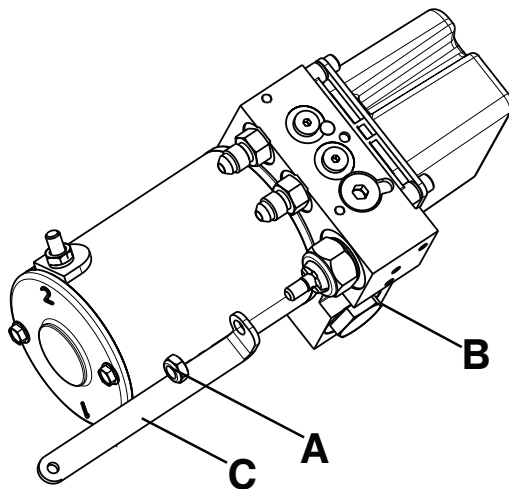

Figure 31 – Non-locking manual valve
5. Using a 7/16" deep well socket and 3/8" drive ratchet, remove the Nylock hex nut (A) that secures the non-locking manual valve (B) to the manual release link (C) (Figure 31).
Note - Place a 1/16" hex wrench through the slot on the non-locking manual valve (B) to keep it from turning (Figure 31).
- Using a 7/8" deep well socket and 3/8" drive ratchet, remove the non-locking manual valve (B) (Figure 31). Discard the valve.